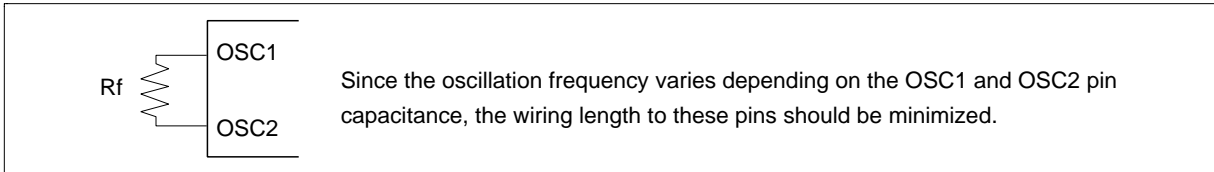

Figure 63 Internal Oscillation
10. Applies to the internal oscillator operations using external oscillation resistor R_f (figure 63 and table 40).